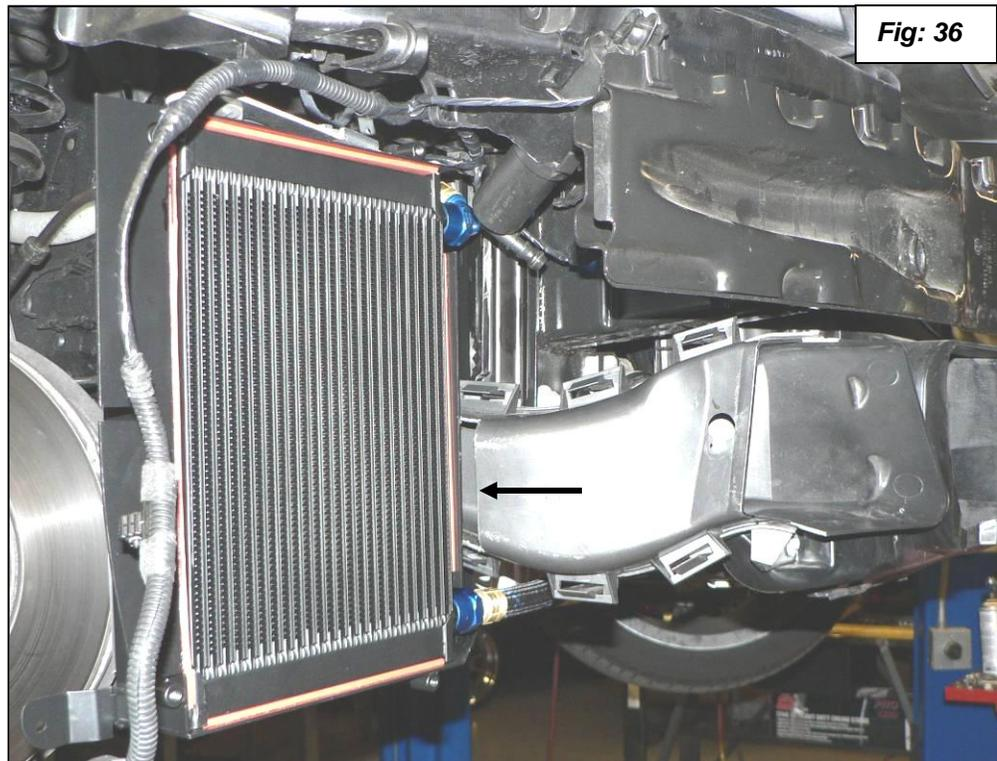

Fig: 36
41. Install the modified brake duct and check for clearance. With the oil cooler in a relaxed position you should have about ½" clearance as shown in **figure 36**.